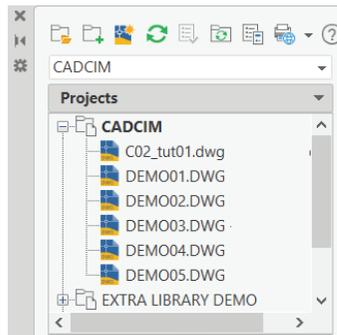

Figure 2-67 The PROJECT MANAGER displaying the CADCIM project with the drawings added to it
- Choose the **Yes** button from this message box; the selected drawings are added to the **CADCIM** project, as shown in Figure 2-67.